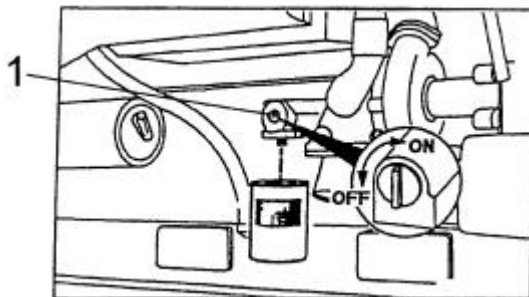

Fig. 5.21. Shut-Off Valve of Coolant Filter
Prior to installation of a new coolant filter close the shut-off valve (Fig. 5.21) - OFF position. Upon installation of a new coolant filter open the shut-off valve - ON position.
8. After filter replacement, turn shut-off valve 1, Fig. 5.21 to the open position, located on the left side of the engine, and reinstall the radiator cap.